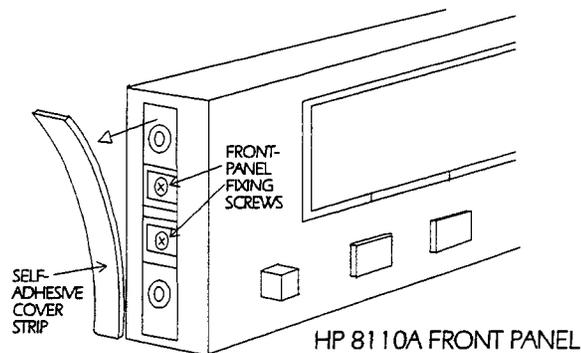

Figure 5-12. Front Panel Fixing Screws
1. Remove the 2 self-adhesive side trims. These cover the Front Panel fixing screws. See Figure 5-12 for the position of the trims